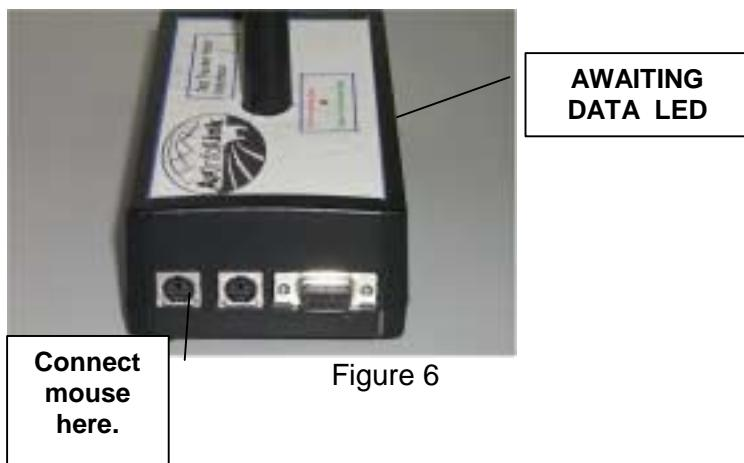

Figure 6
- When the Base Station is connected properly, the awaiting data LED will be lit bright red only when AGINFOLINK'S software is running. (see figure 6)